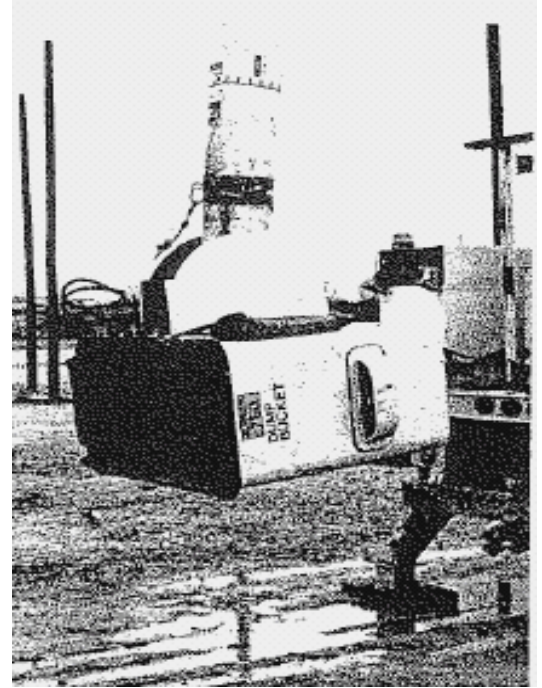

Figure 5-1
4. When moving a dump bucket to the ground care must be taken to avoid pinning the bucket to the ground. This may cause the mechanical features of the dump system to become wedged. Using the dumping feature of the bucket (Figure 5-1) remove the victim and begin CPR/First Aid.